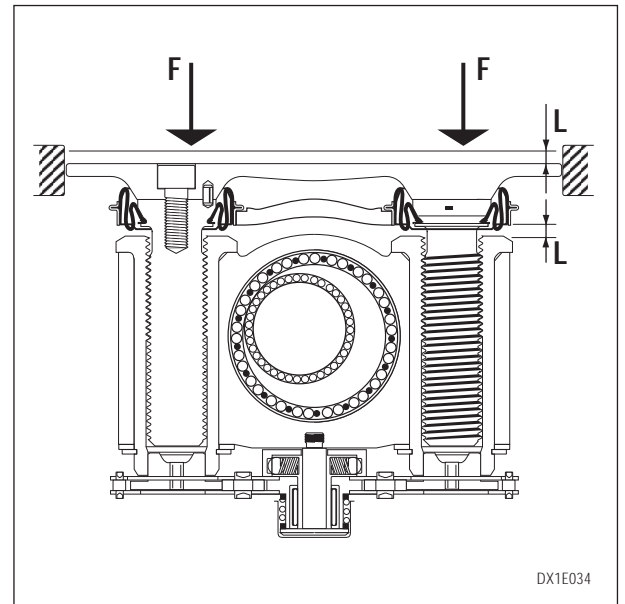

Fig. 2-7 Step 3B
- h) Sleeve rotation, due to the threaded coupling with pistons, causes pistons to be unscrewed. This determines the length ' $L$ ' of the extracted part of the pistons to increase and the pads approaching stroke towards the rotor to reduce (Fig. 2-7).